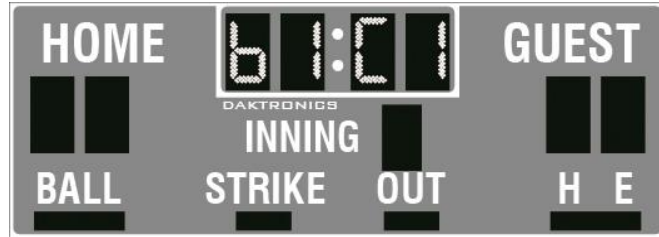

Figure 13: Radio Settings (Clock)
- If there is a clock, the settings appear in the clock digits (**Figure 13**).